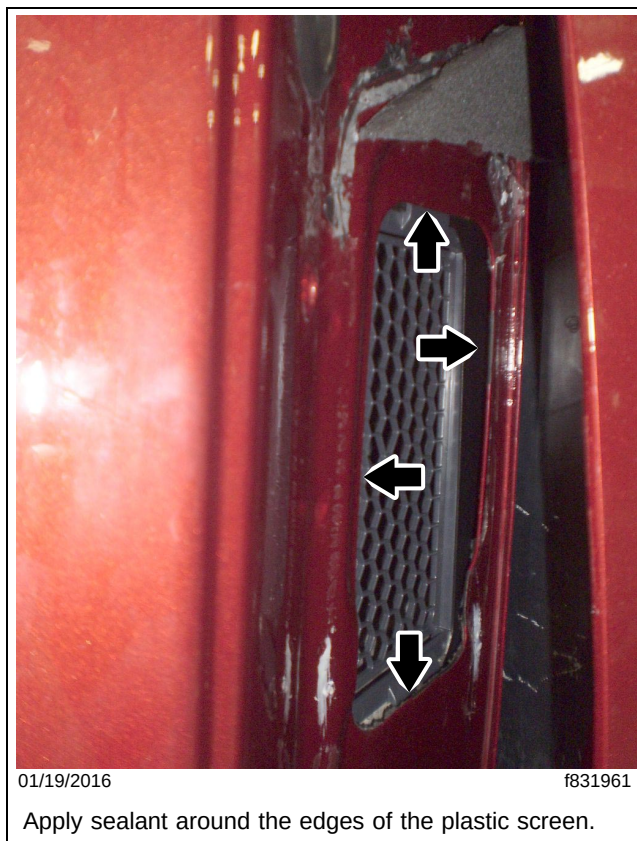

Fig. 3, Applying Sealant (plastic screen only)
6. If equipped with a plastic intake screen and filter, remove and discard the foam pre-filter, then apply sealant around the interface of the screen and the frontwall panel. See **Fig. 3**.